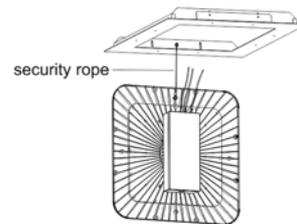

Fig. 6
2. Secure the frame by L shape brackets and screws. See fig. 6.